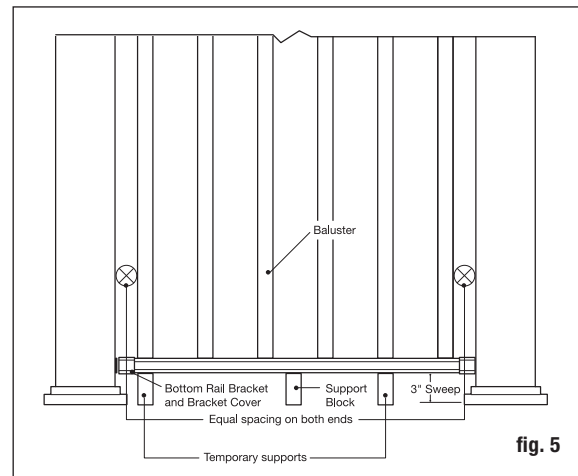

fig. 5
Step 6 Measure the distance between installed post sleeves to determine the length of the top and bottom rails. Place the panel in position next to the posts and adjust so the distance between the first baluster and post is greater than 2" and equal on both ends (refer to fig. 5). Mark and cut the top and bottom rails to length.